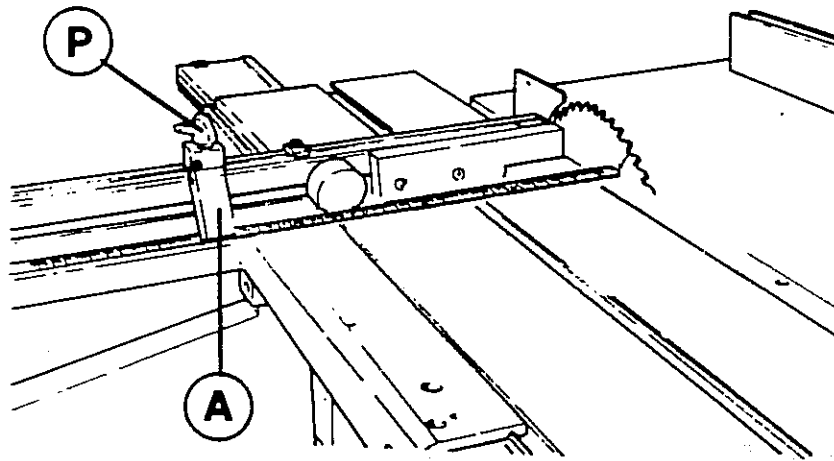
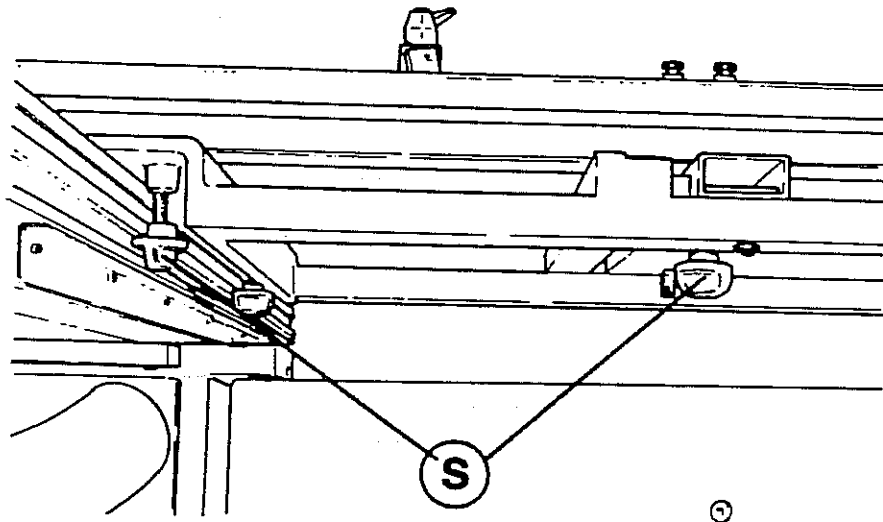

Fig.31
Fig.31a
- Lock stop (A fig.31) on the rule by knob (P) in any position (f.e 25 mm)
- Rest a mason's rule against a saw tooth and move the rest rule so that the distance from the left side of stop (B) to saw blade is equal to the value selected (i.e 25 mm).
- Lock the rest rule on the squaring table by knobs (S fig.31a)